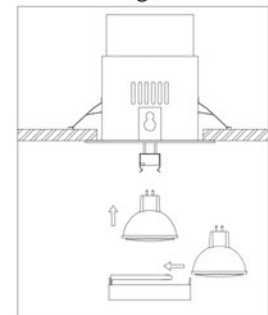

Fig.3
5. Put the lamp source into the socket, fix the lamp source into the inner trim spring as Fig 3.